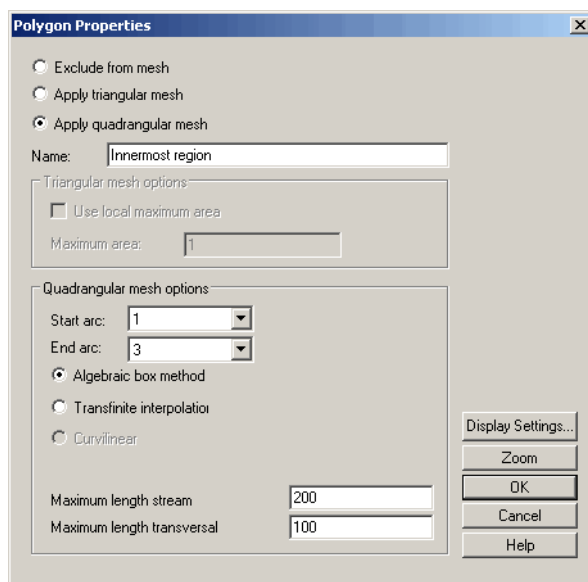

Figure 15.26 Quadrangular polygon options
5. Right click to select Properties. Use the tick box to define the polygon as a quadrangular mesh and specify the options shown in Figure 15.26